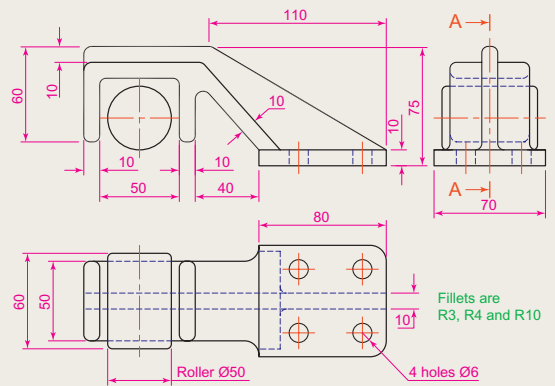

Fig. 8.21 Exercise 2
2. Construct the three-view orthographic projection Fig. 8.21 to the given dimensions with the front view as the sectional view A-A.